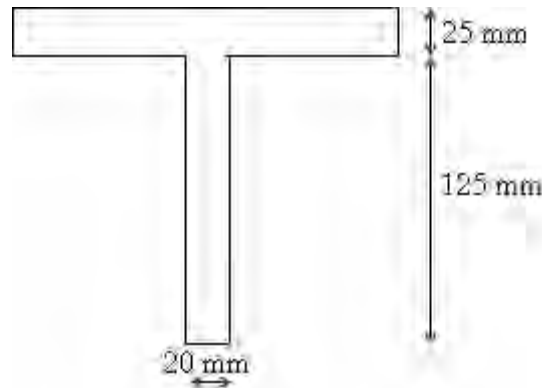

Figure 6:
6. A simply supported beam of T - section shown in figure 6. carries a uniformly distributed load of intensity 20 kN/m on its entire 5 m span. Determine the width